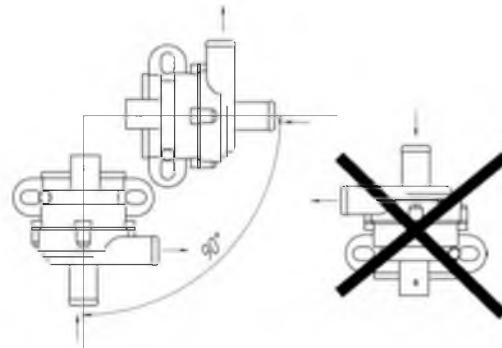

Figure 7.4 – Recommended position of the motor pump
The motor pump shall be installed on heater as per figure 7.4. The motor pump shall be located in conformity with recommendations given in items 7.1.1 and 7.1.2. Recommended position of pump is whatever from horizontal (with the outlet fitting up) to vertical (pump head down).